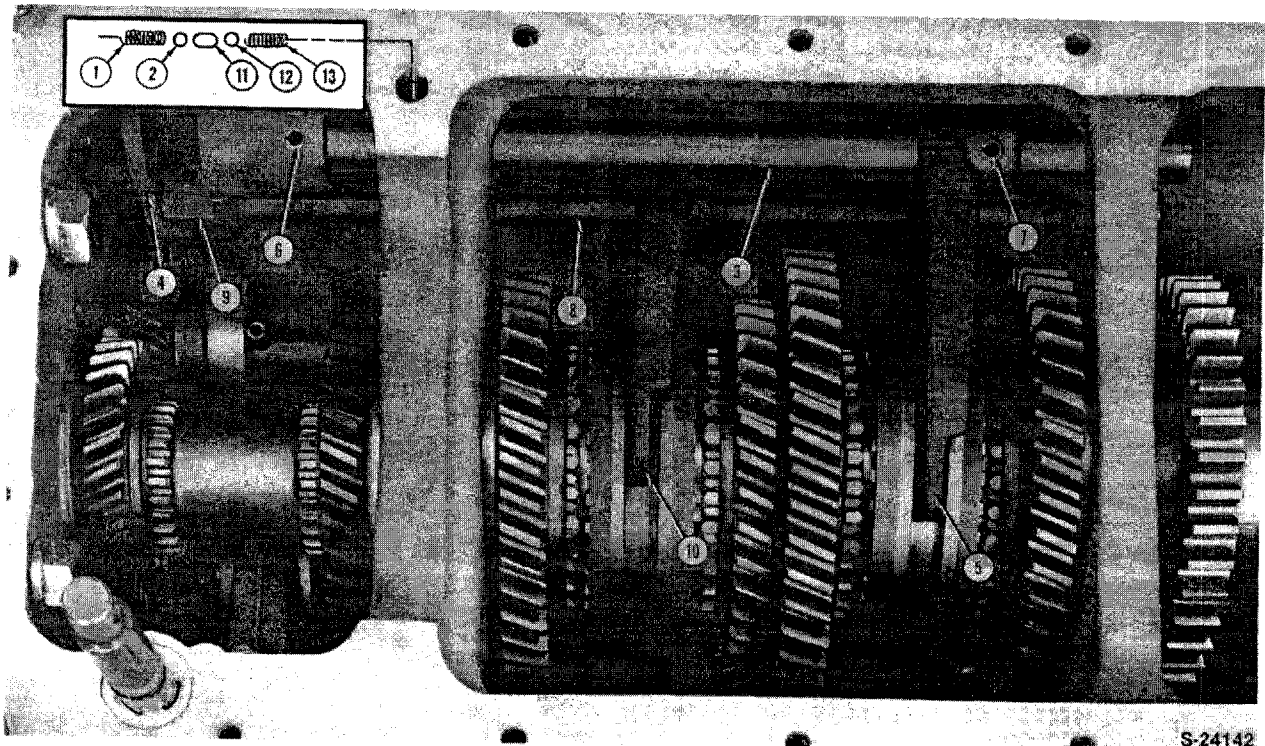

Figure 135
3. Drive the roll pins (6 and 7) out of the upper shift rail shift fork and boss (4 and 5), Figure 135. Remove the detent spring (1) and ball (2), Figure 135.
5. Remove the interlock (balk) pin (11), Figure 135.
6. Drive the roll pins out of the lower shaft boss and shift fork (9 and 10), Figure 135.